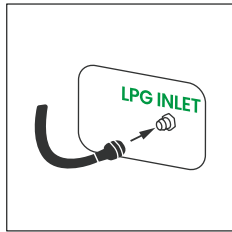

Fig.10
**A.**Connect propane hose: Connect the propane hose to both the inlet and the propane tank. Open the propane tank (see **Fig.10**).